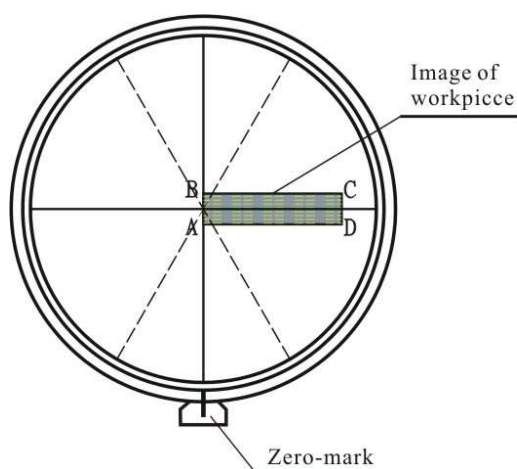

Fig.9 One-dimensional measuring
7.2.1.3 Adjust the work piece parallel with the measuring axis. (See Fig.9) BC is parallel with X axis.